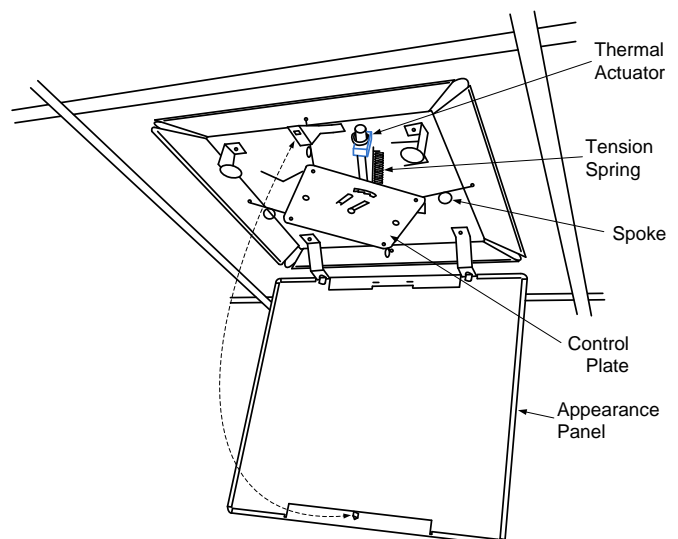
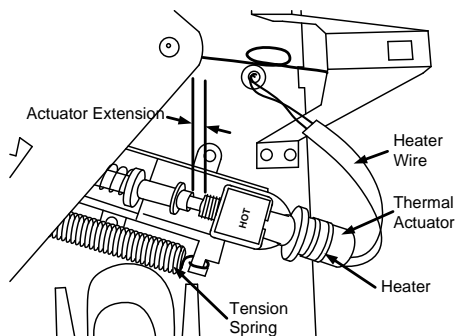

Fig. 2 Tension Spring
Fig. 4 Actuator Extension
- b. Unhook tension spring from bracket adjacent to thermal actuator (see Fig. 2 Tension Spring and Fig. 4 Actuator Extension).
12. Measure the thermal actuator extension (see Fig. 4 Actuator Extension).
- b. Confirm that the heater is wrapped around the thermal actuator (see Fig. 4 Actuator Extension). If not re-wrap it.